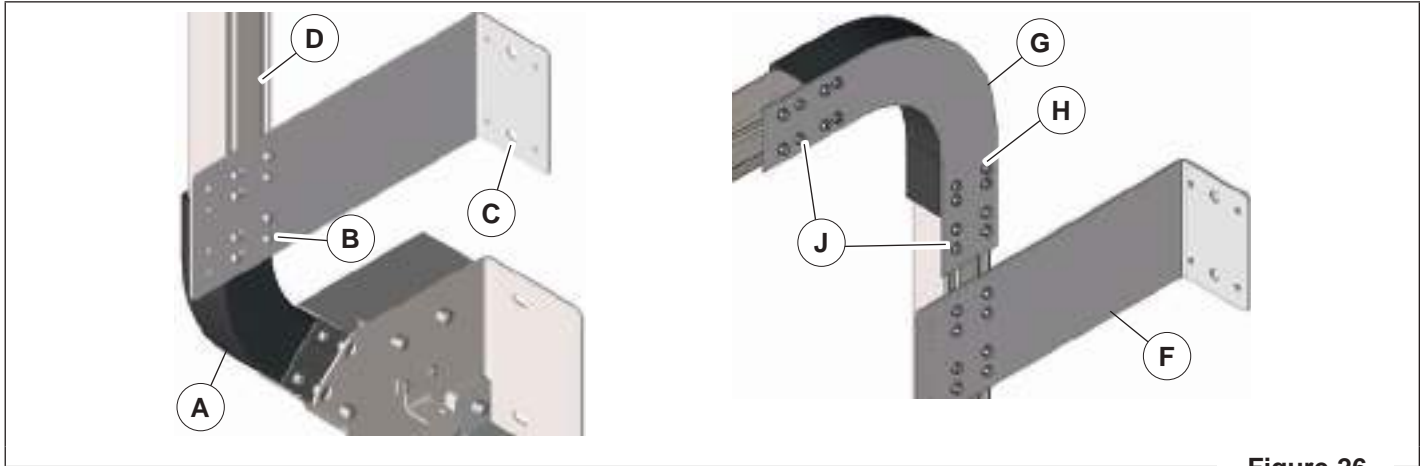

Figure 26
1. The proper radius (A) is already assembled to the lower track (Figure 26).
2. Pilot holes (B) (.201Ø x 1 1/4in [5 x 32mm] deep) MUST be pre-drilled into lower track radius.
3. Place mounting bracket (C) in position and mark holes to be drilled in wall.
4. Locate the 2 pieces of upper track (D) and the supplied wall mount brackets. Slide end of upper track into the lower track radius (A), level, plumb and fasten to wall mount bracket using self drill/tap screws.
5. Use self drill/tap screws (J) in horizontal and vertical track.
6. Fasten upper wall mount bracket (F) to track and wall, below radius and splice bracket (G). Minimum 6in x 6in [152mm x 152mm] backer plate required on hollow or insulated walls.
7. Use track splice bracket (G) to join lower and upper track. Drill .201 [5mm] Ø pilot hole 1 1/4in [32mm] deep for lag screws.
8. Use lag screws (H) in radius bracket.
9. Measure from outside edges of tracks (E):